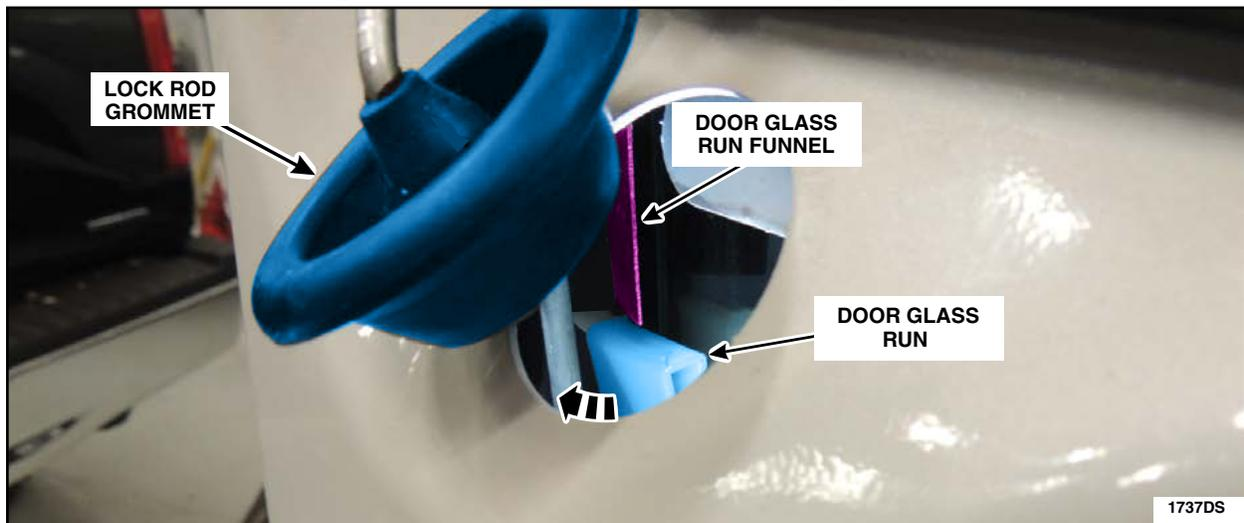

FIGURE 27
18. Unseat the front door lock rod grommet and visually confirm that the funnel is in the correct position and then reinstall the front door lock rod grommet. See Figure 27.